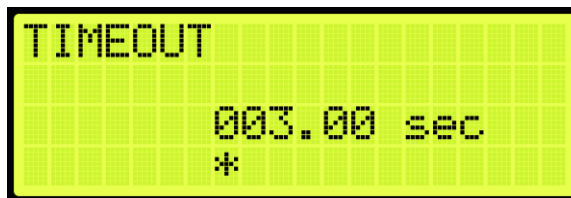

Figure 507: TIMEOUT Menu
4. From the TIMEOUT menu, set the time of the threshold (See Figure 507).